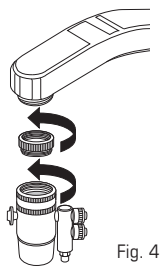

Fig. 4
- b) If that does not fit, **attach** the appropriate textured adapter with internal threads and washer to the end of your faucet (Fig. 4).